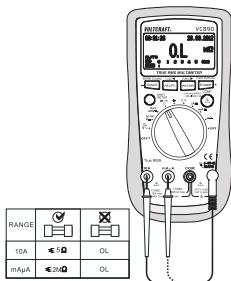

Fig. 12
2. Insert a test lead in the °CHzVΩ socket (7).
3. Contact the current measuring socket to be tested with the test prod (Fig. 12).